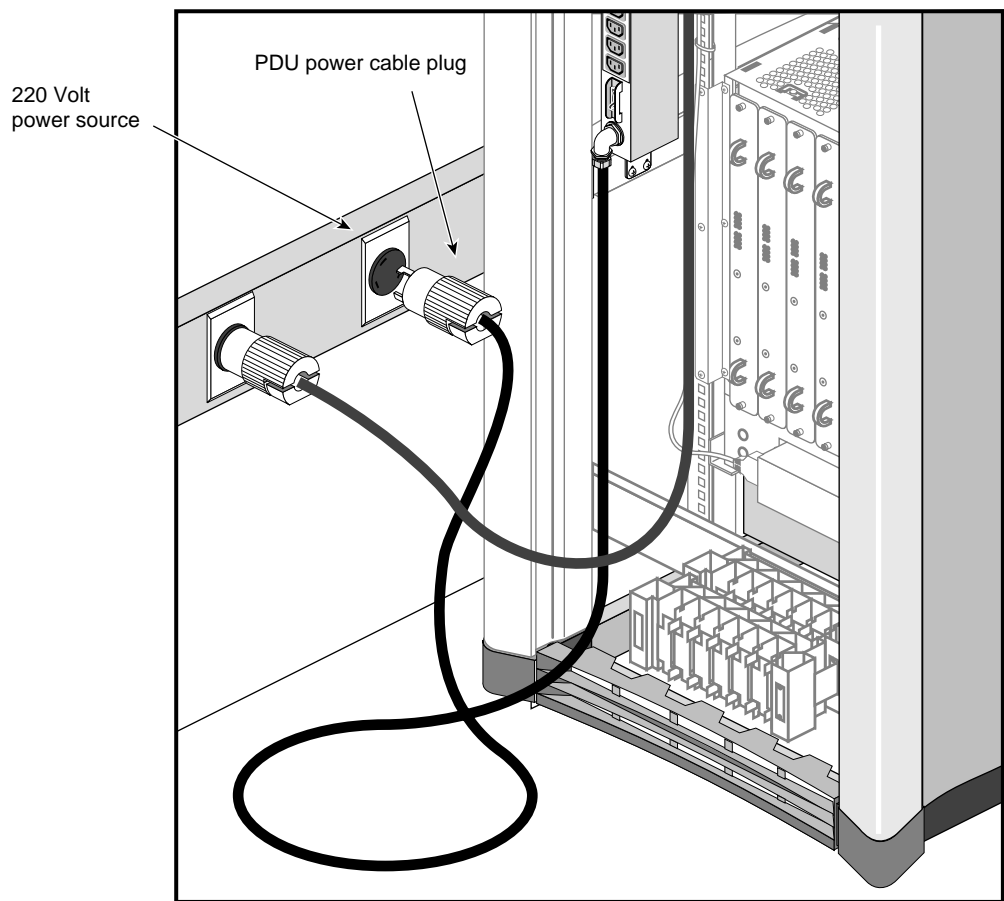

Figure 4-4 Connecting the PDU Power Cable
5. Insert the power distribution unit's (PDU's) power cable into the 220-240 VAC wall receptacle (see Figure 4-4). The power receptacles used for the graphics module and PDU should be sourced and grounded from the same breaker box. For additional information on this topic, see your system's *Site Preparation* manual.